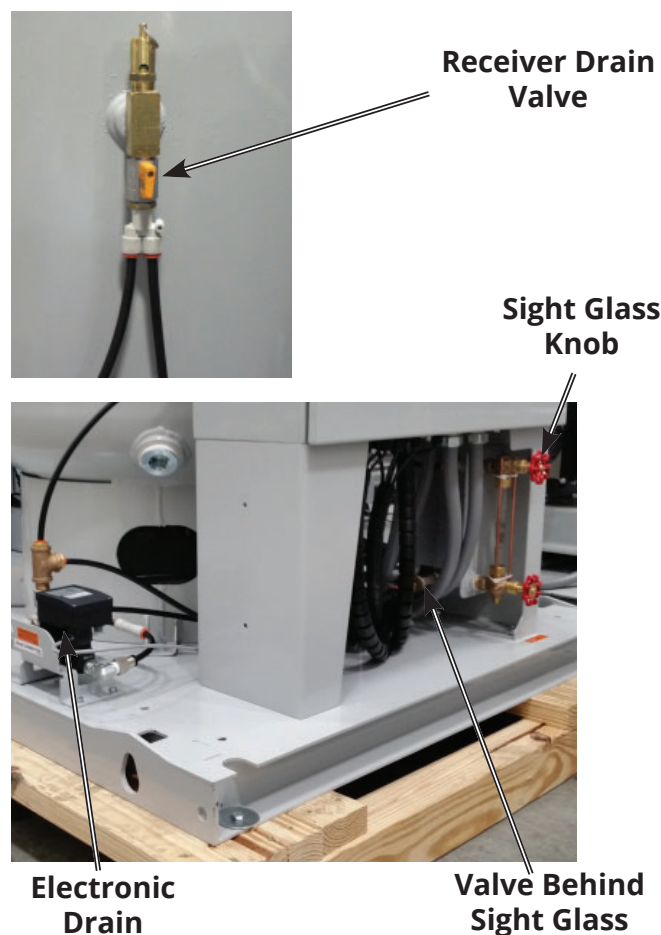

Figure 6.5 Electronic Drain Isolation Valves
- See Figure 6.5 for valve locations.